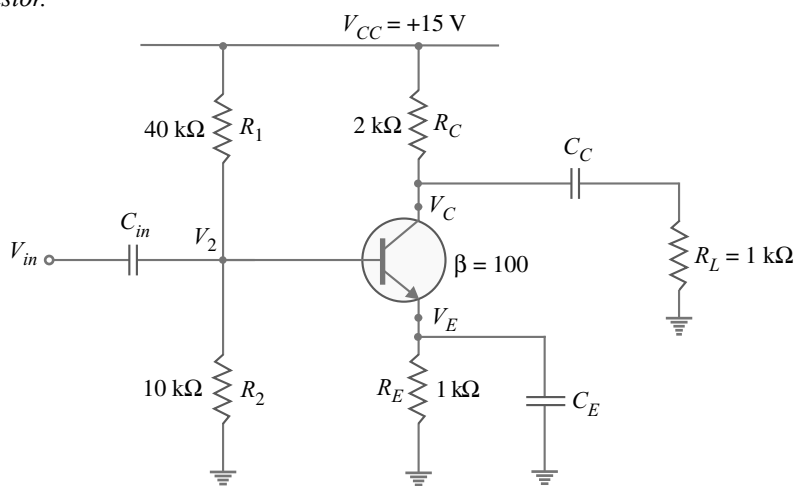

Fig. 8.38
**Example 8.21.** For the circuit shown in Fig. 8.38, find (i) the d.c. bias levels (ii) d.c. voltages across the capacitors (iii) ac emitter resistance (iv) voltage gain and (v) state of the transistor.